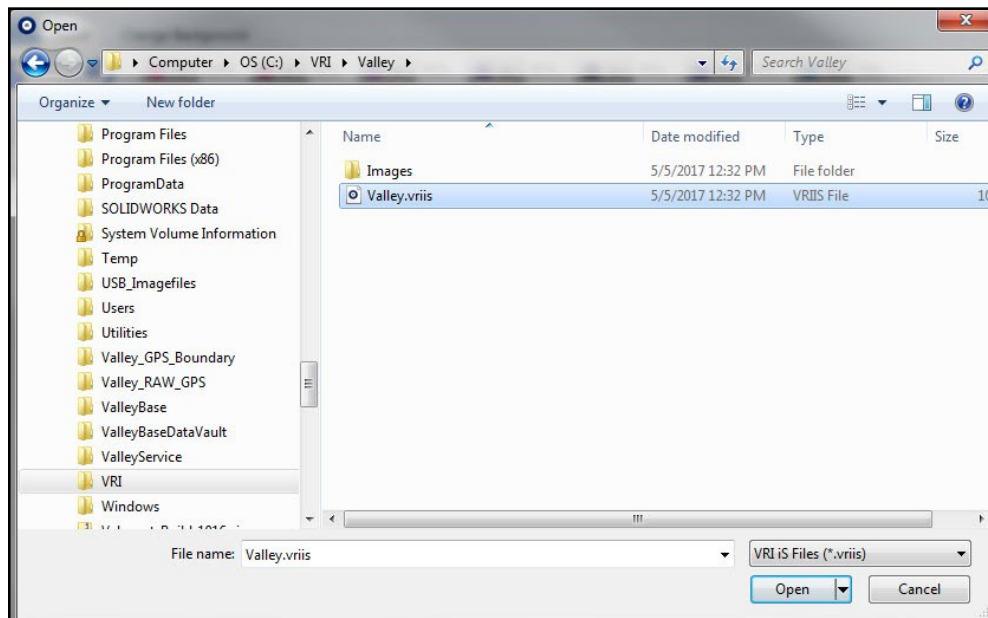

Figure 28-2 Open Project From Folder
- Click on **Open Project**, locate it in the appropriate project folder, and click on it to open it. See Figure 28-2.